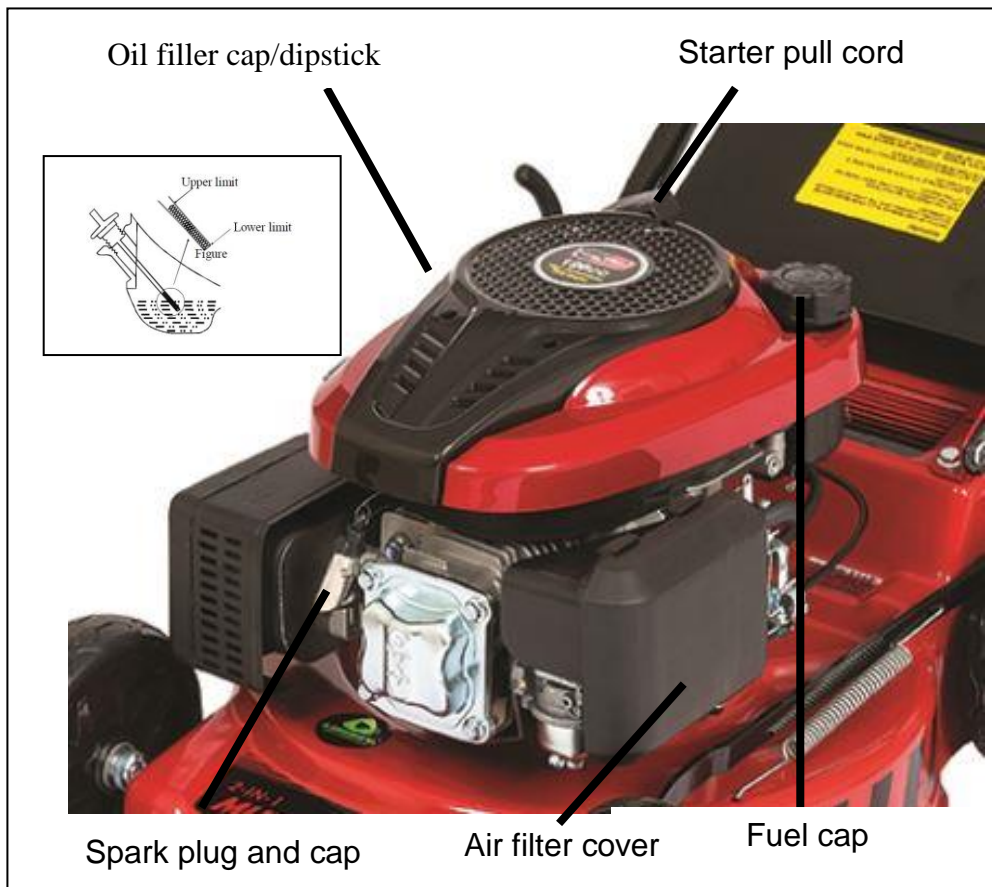

Fig. 11
This product is equipped with a **4-stroke engine** which requires 500 ml of engine oil to be filled in the separate oil sump. Check engine oil level before starting engine. **Check the oil level with the oil dip stick unscrewed(Fig. 11).** Use SAE 30 engine oil (Complete service kit including oil available from stockist). Use clean, fresh regular lead-free petrol with a minimum of 87 Octane rating. Always refuel the lawnmower outside in a well ventilated environment. Do not smoke! Always stop the engine and allow it to cool for 2 minutes before refuelling. Do not light any flames while refuelling. Wipe off any fuel that may have spilled. Start the engine away from the place where it was refuelled. Ensure the tank cap is tightened properly.
2. Repeatedly press the primer bulb (Fig.11).
Oil level: Check every time before use. Replace the oil after the first 5 hours of use and then at 25 hourly intervals or every season. Note: Oil level on LSQ 6548 ML to be checked with dip stick unscrewed(Fig. 11).
Spark plug: Check every 12 months or if starting problems are experienced. When the engine is cold, remove the lead & cap (Fig.11) and unscrew the spark plug with a suitable spark plug socket. If the electrodes are excessively soiled or worn then replace with an equivalent new spark plug (e.g. F7RTC). Replace spark plug and screw in by hand to avoid stripping of thread, then tighten with socket.
Air filter: Clean air filter regularly. Unclip air filter cover (Fig.11) and remove Heppa filter. Tap filter several times on a hard surface dust and dirt.. Fit new filter if excessively dirty or damaged. Please refer to owner's manual for more information.